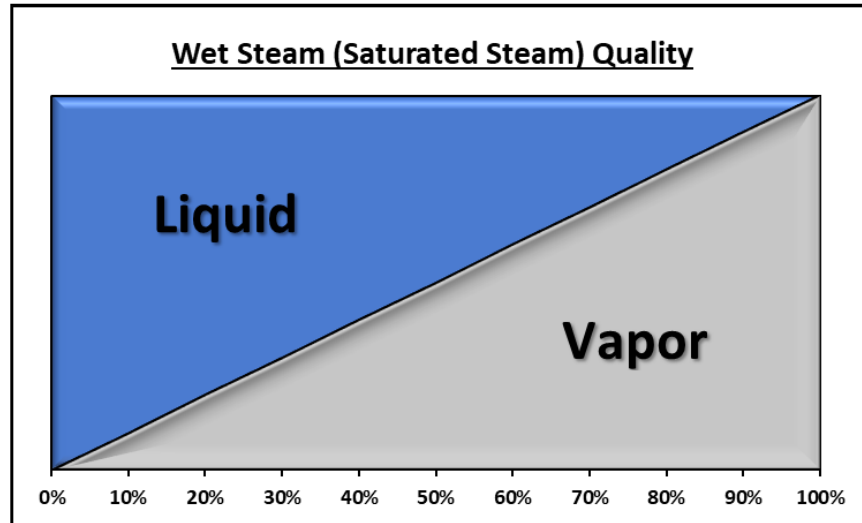

Figure 2
As more heat is added to the steam the evaporation increases, this causes the percentage of vapor to increase as the percentage of liquid decreases. This results in the steam quality (X) increasing until it reaches dry steam ($X=100\%$). See figure 2 below.